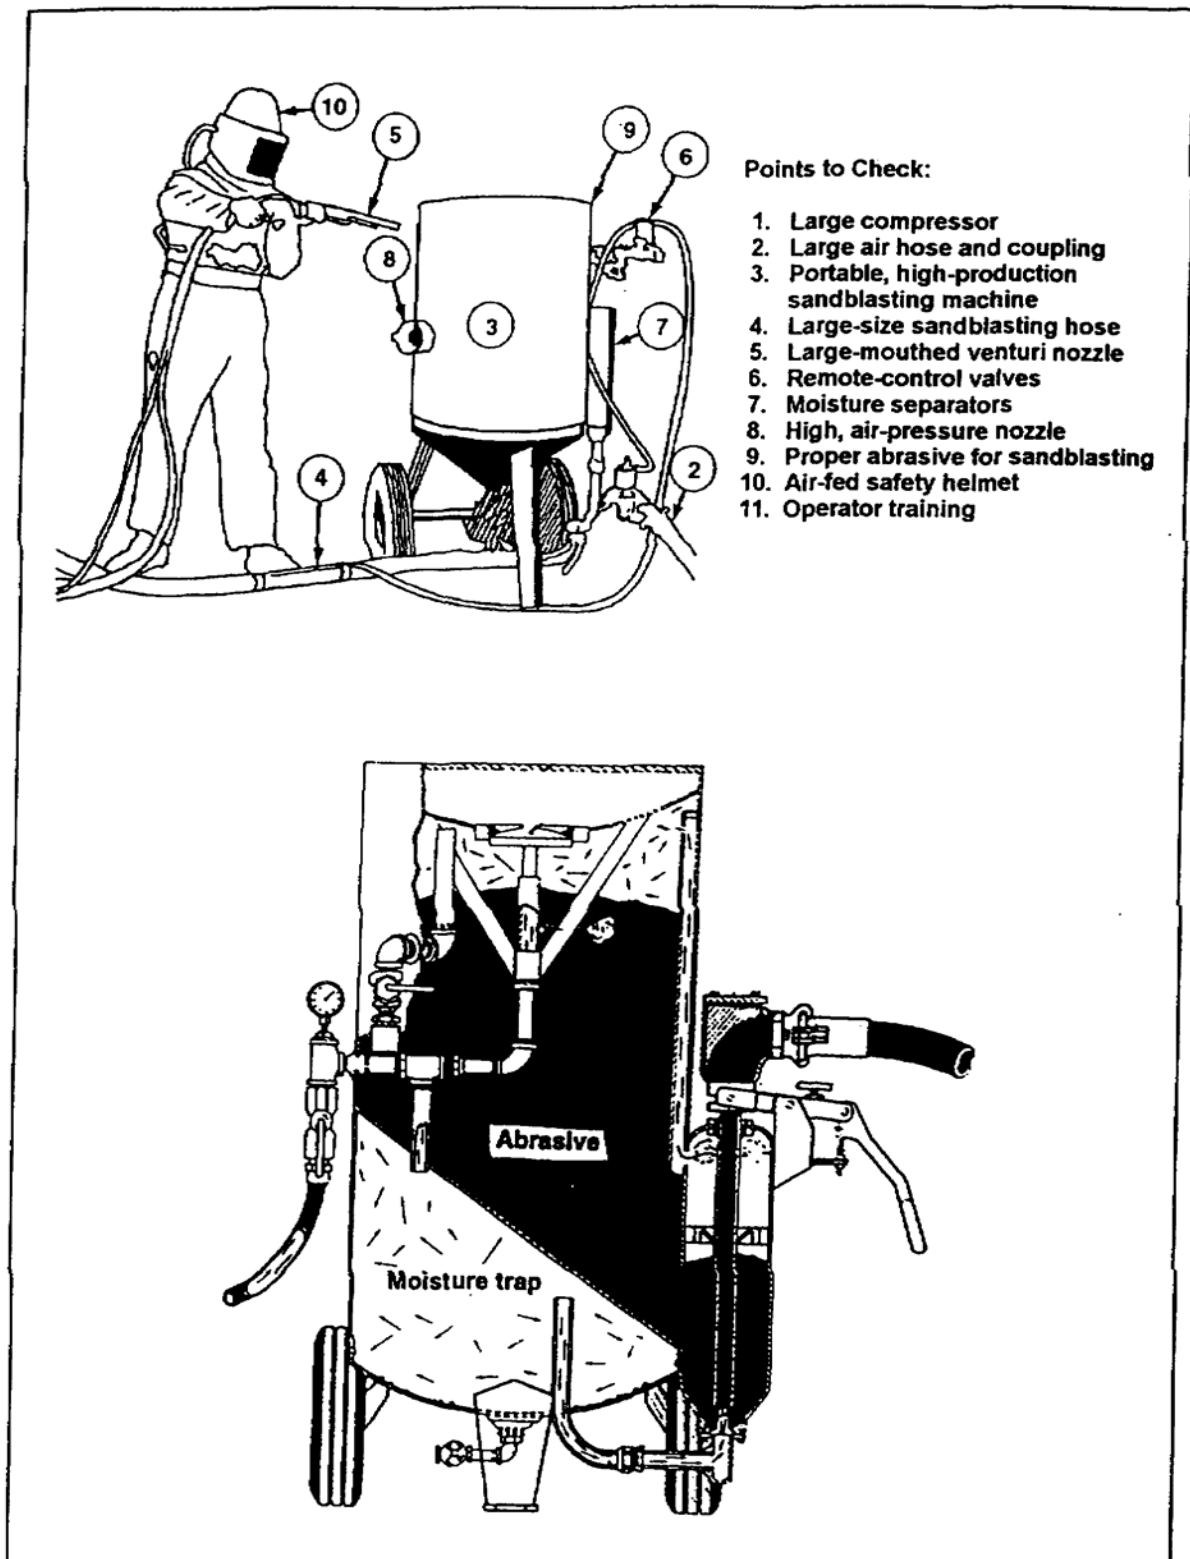

Figure 3-19. Portable abrasive blaster
(1) Use portable abrasive blasters (Figure 3-19) to remove paint from metal or masonry surfaces and corrosion from metal surfaces. Blasting is a very effective method of removing traffic markings from concrete paving.
(2) Abrasive-blasting equipment is simple to operate. In fact, only 8 to 16 hours of operating time is required to acquire a basic knowledge of abrasive-blasting techniques. However, simple though the operation may be, each equipment type has its own peculiarities. Because of this, you should closely follow the operating instructions of the specific equipment to prevent damage to the equipment or to the material being cleaned.
(3) The abrasive blaster is operated by compressed air. The air pressure bombards the surface with the abrasive (sand, grit, split shot, or glass beads) at a high velocity. If the compressed air is furnished by a portable compressor, you must follow the manual for operating this particular compressor type.